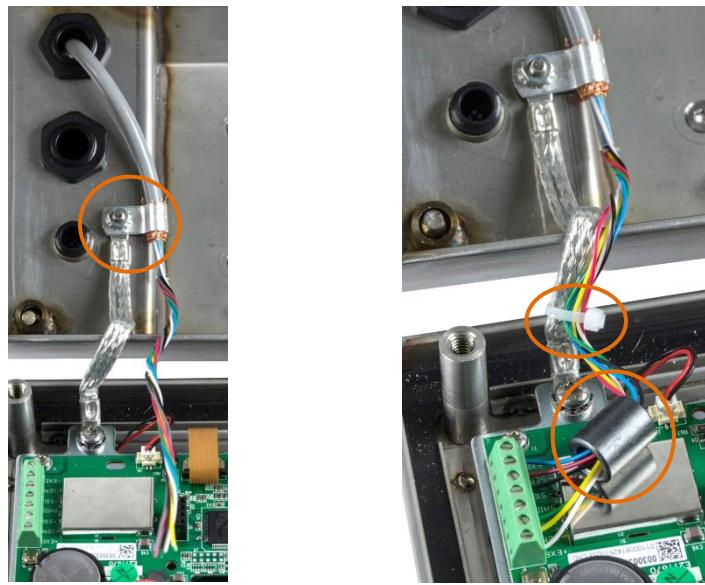

Figure 2-32: Analog Load Cell Cable Ferrite Installation and Chassis Grounding, IND236
5. Connect the grounding clip to the enclosure using the enclosure hinge attachment screw, as shown in Figure 2-32 (left).